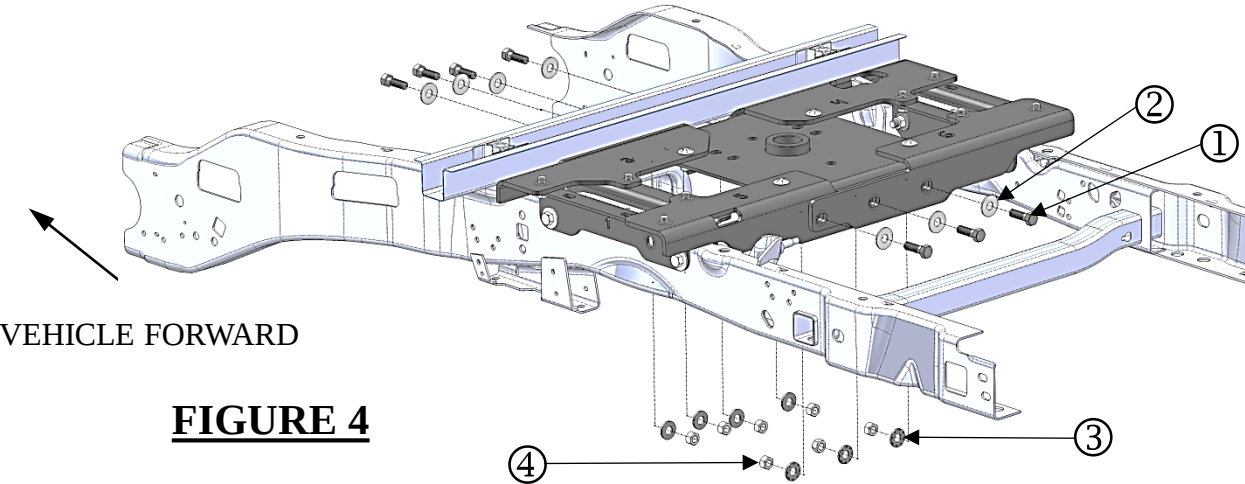

FIGURE 4
- 2. Step 2, **Figure 4**. Install the (7) 5/8-11 X 2.00 Gr. 8 hex bolts (#1) , (7) 5/8" dia. flat washers (#2), (7) 5/8" dia. conical washers (#3) & (7) 5/8-11 Gr. 8 hex nuts (#4) as shown through the rails and the center section. It may be necessary to utilize the tapered alignment pin (not included) in order to properly align the holes and slots to be able to securely fasten these parts with the fasteners.